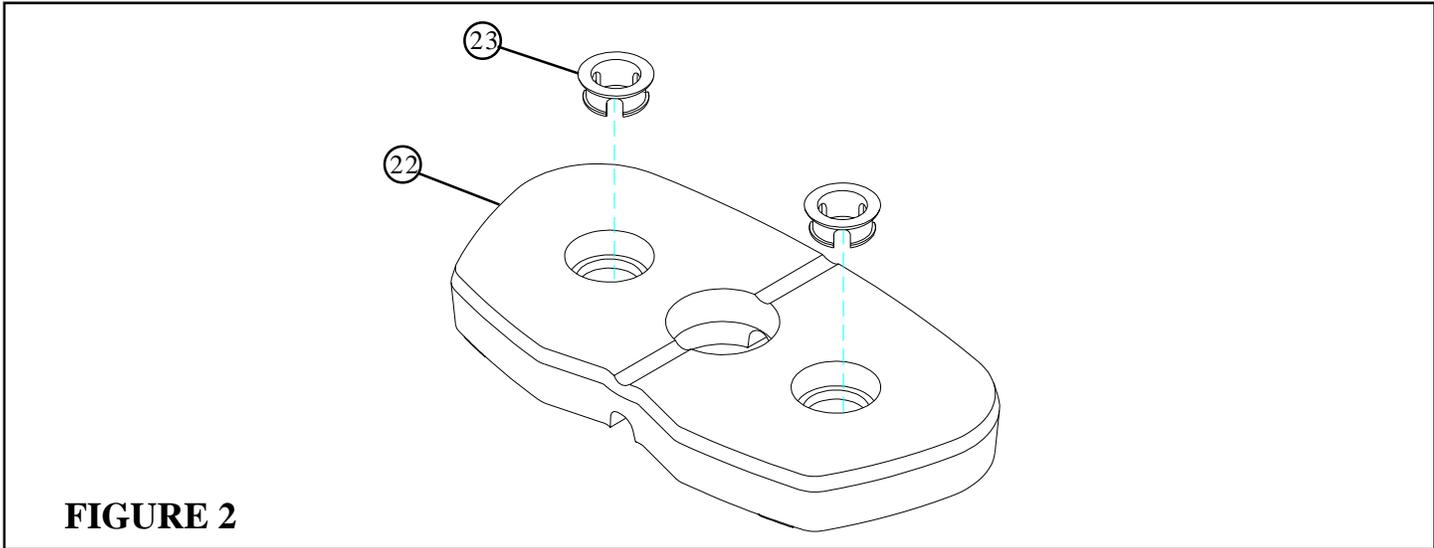

**FIGURE 1**
- **LOOSELY** assemble two BASE PLATES (3) to the FRAME (1) and BASE (2) using four 3/8 X 3-3/4" BOLTS (30) and four 3/8" LOCK NUTS (34). See FIGURE 1.
- Insert two 3/8 x 9/16" FLANGE SPACERS (41) into the upper holes in the FRAME (1) as shown in figure 1
- **LOOSELY** assemble the FOOTPLATE (62) to the lower holes in the FRAME (1) using one 3/8 x 3" BOLT (29) and one 3/8 LOCKNUT (34)